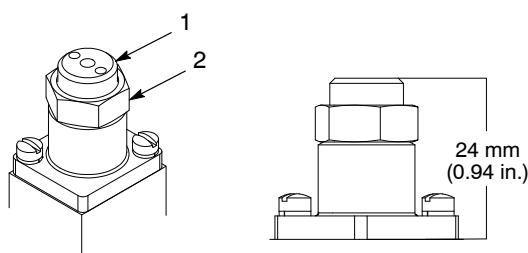

Figure 9-6 Location of the module loading screw and locking nut
See Figure 9-6. To adjust a loading screw, loosen the locking nut (2) at the top of the module and hold it loosely in place with a $\frac{5}{8}$ -in. wrench while turning the loading screw (1) with the multi-tool; then tighten the locking nut. Turn the loading screw as follows: